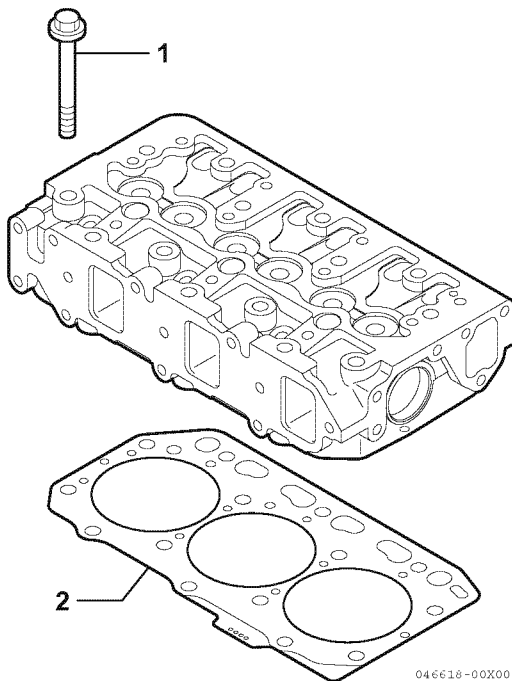

Figure 6-8
2. Remove the cylinder head bolts (1, **Figure 6-8**).
3. Lift the cylinder head away from the cylinder block. Discard the cylinder head gasket (2, **Figure 6-8**). Position the cylinder head on the work bench to prevent damage to the combustion surface.